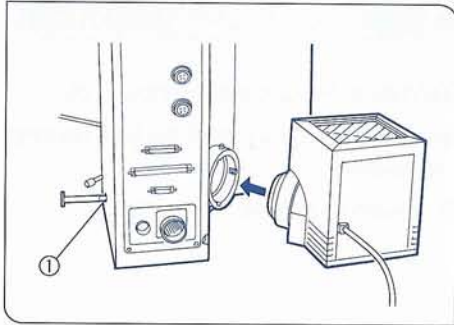

Fig. 10
6 Attaching Lamp Housing to the Microscope (Figs. 10,11)
1. Using the Allen screwdriver, fully loosen the lamp housing clamping screw ① on the microscope.
2. Insert the lamp housing collector unit into the opening in the microscope frame until it touches the lamp housing mounting collar on the back of the base (lower part), then tighten the clamping screw. (Fig. 10)